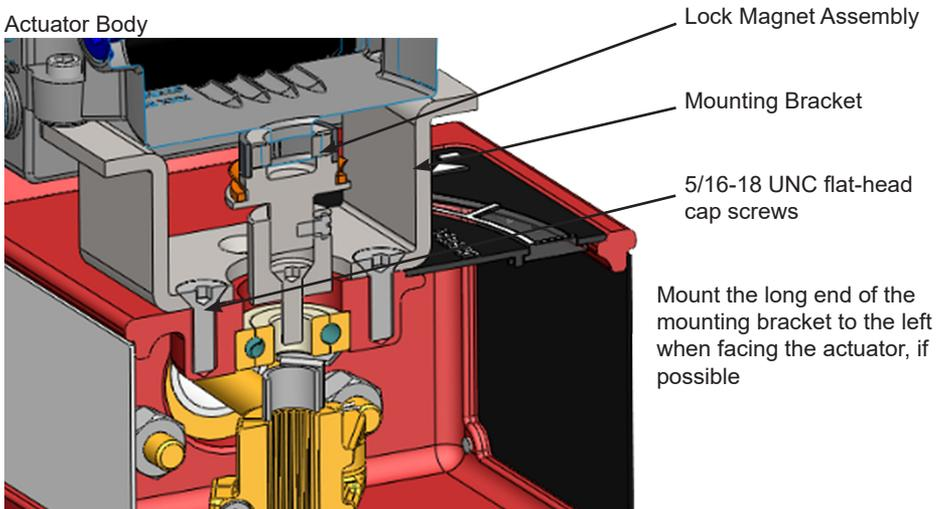

Figure 12 - Rotary Mounting Bracket to Valve actuator
1. Attach the mounting bracket to actuator (Figure 12).